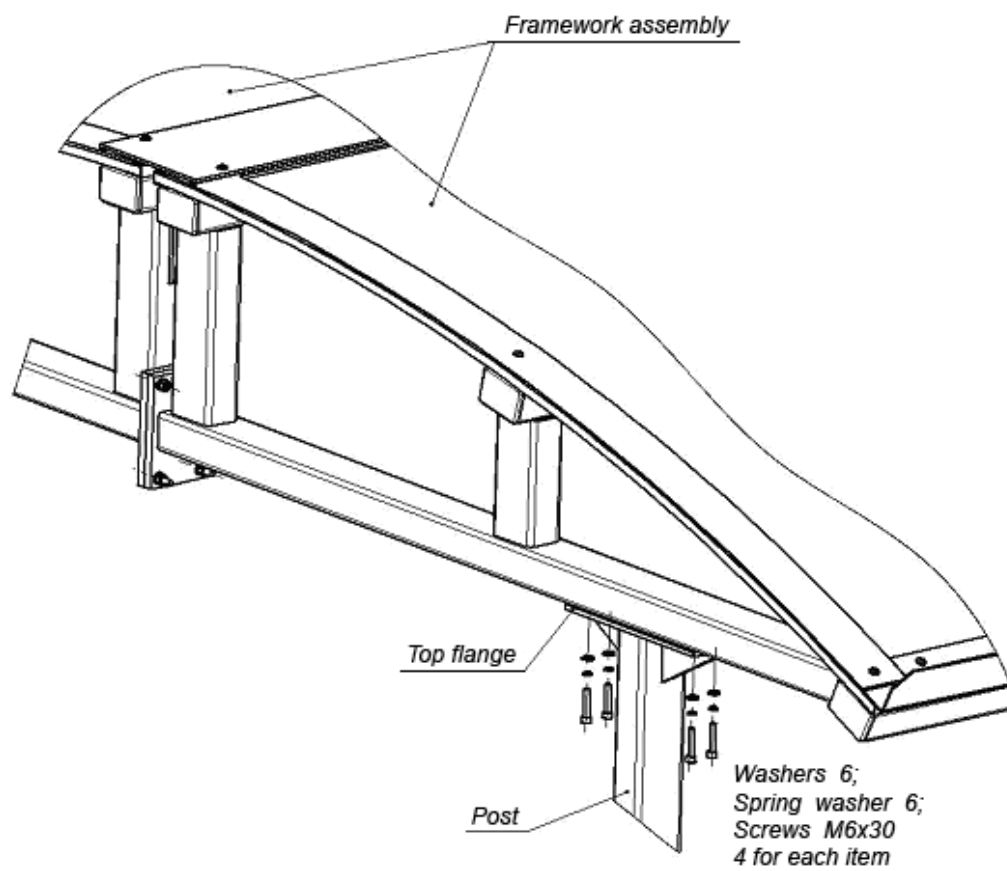

Fig. 6. Fixing the roof assembly to the post (3)
8.2.13 Drive the screws M6x30 with washers into the thread bushings in the roof sections through the four holes in the top flange (5) (Fig.6). Obtrusive ends of the thread bushings should enter the counterbored holes in the top flanges. Differences between diameters of the bushings and the holes, and the screw M6 and the flange hole allow compensating for possible installation faults.